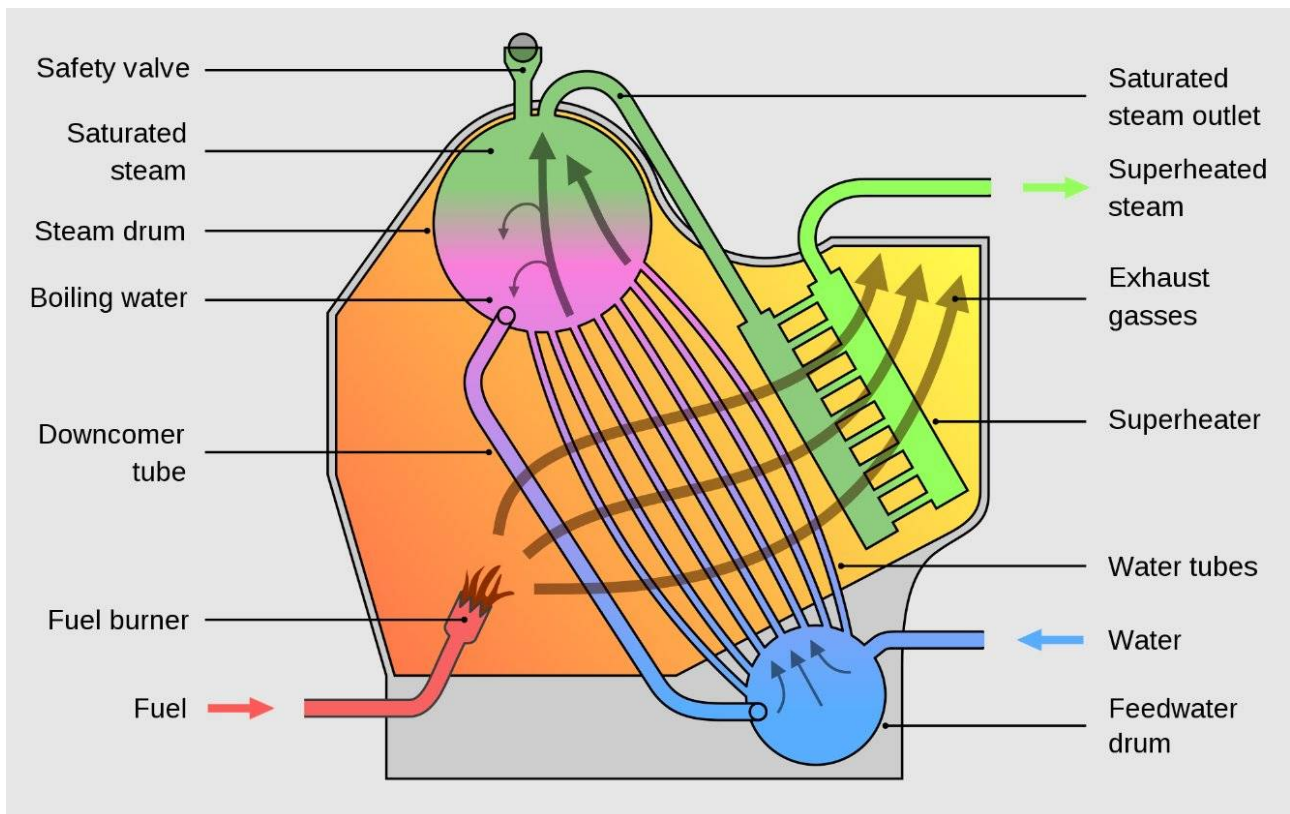

Figure 1: A Water Tube Boiler (Wikimedia Creative Commons Image)
1. Water is turned into steam in the *boiler*. This requires a heat source: in small steam boats this is usually a coal fire or an oil burner, sometimes a wood fire or gas burner. In submarines a nuclear reactor is used. Figures 1 and 2 below show two common types of boiler used in steam boats.